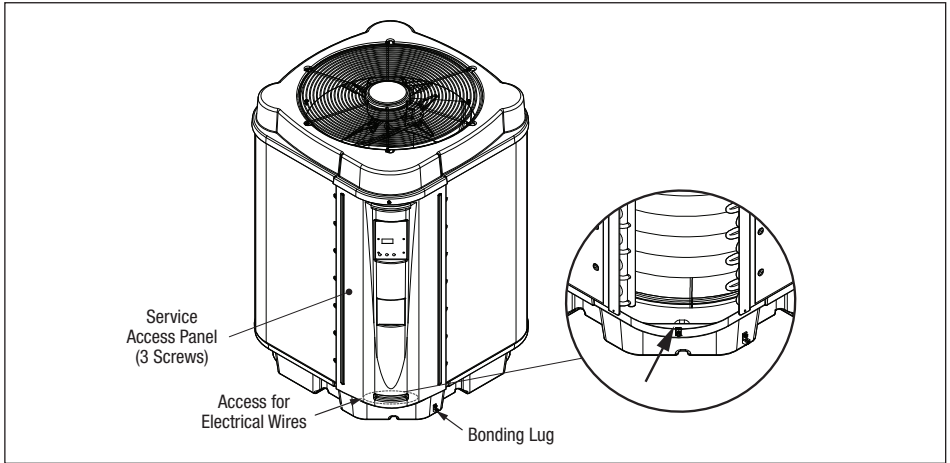

Figure 4. Sunblazer Heat/Cool Heat Pump Front Access Panel
2. Remove the three (3) screws that attach the service/access panel to the heat pump unit (see Figure 4).
The National Electrical Code and most other codes require that all metallic components of a pool structure, including reinforcing steel, metal fittings, and above ground equipment be bonded together with a solid copper conductor not smaller than 8 AWG. The heat pump, along with pumps and other pool equipment must be connected to this bonding grid. To ensure this requirement is met, a bonding lug is provided on the front bottom right below the control access panel (see *Figure 4*). ALL metal and electrical components of the pool system must be bonded together. On many older pools, the bonding wire may not exist. In this case, a 6 to 8 ft. copper rod must be driven into the ground near the pool equipment and all electrical and metal components must be bonded to the rod.